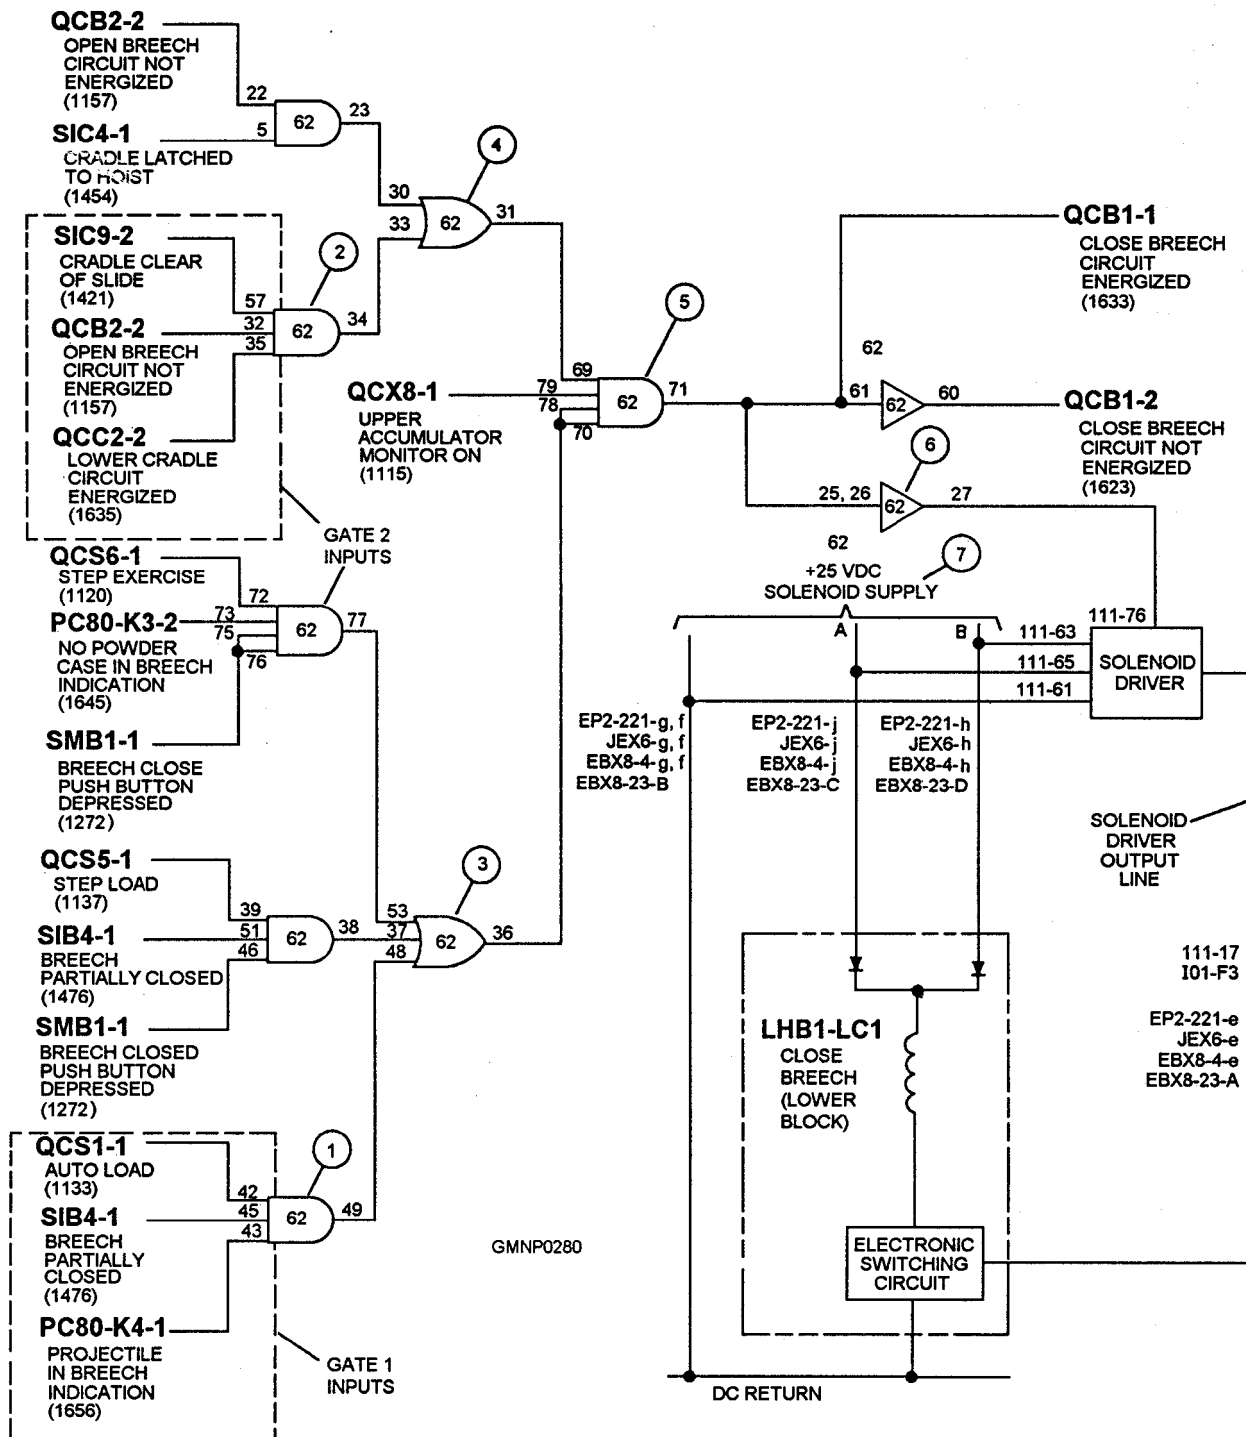
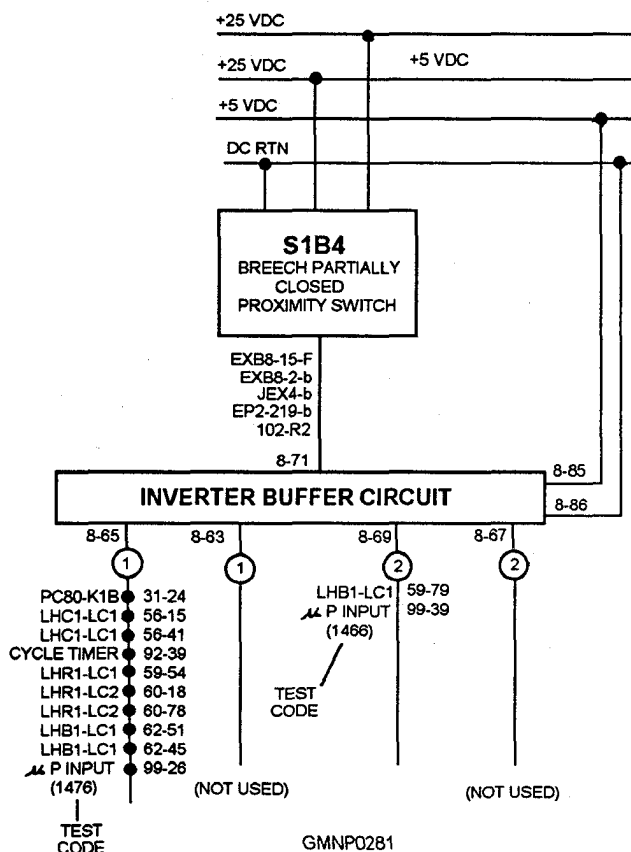
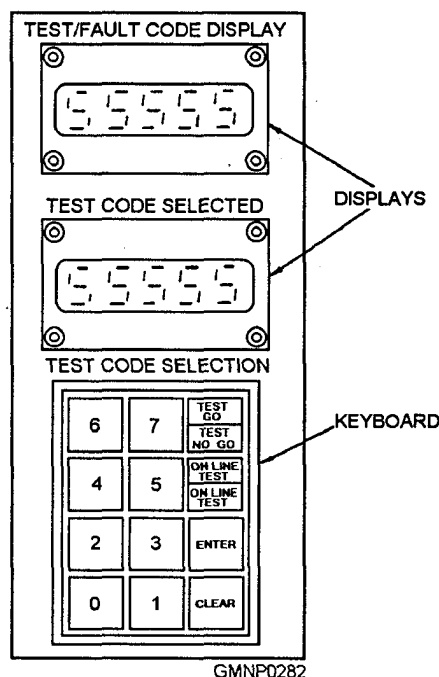

Figure 5-17.—Typical logic control circuit.
Figure 5-18.—Inverter buffer circuit for SIB4.
Figure 5-19.—Test/Fault code keyboard and displays.
Figure 5-17 shows a typical logic circuit that uses inverted and buffered switch outputs to trigger a solenoid driver. The solenoid driver, in turn, controls a
This circuit consists of AND gates, OR gates, and an inverter. The numbers within the gates identify the printed circuit board in the EP2 panel on which the circuit is located. The numbers on the input and output lines of the gates identify the terminal pin that connects to that point. The circled numbers in figure 5-17 are
Inputs to the logic gates are identified by both alphanumeric nomenclature and a brief description of what the input means. The input SIB4-1 (BREECH PARTIALLY CLOSED) to gate 1 comes from the number 1 output leg of the inverter buffer associated with SIB4 (fig. 5-18). When the breech is partially closed, the switch is activated and the high switch output through the inverter buffer produces a low logic input at input pin 45 of gate 1. Remember, gate 1 is an AND gate and requires all inputs to be LOW to produce a LOW output.
The inputs to gates 1 and 2 in figure 5-17 initiate the operation of breech closing solenoid LHB1-LC1 in the normal mode of operation, AUTO LOAD. The six inputs indicate that the gun-loading system has delivered a complete round into the breech of the gun, the LOWER CRADLE circuit is energized, and the cradle has moved clear of the slide. With these conditions met, gates 1 and 2 pass a LOW logic signal to gates 3 and 4, respectively. Since gates 3 and 4 are OR gates, they require only one LOW input to produce a LOW output. The two LOWS from gates 3 and 4 are applied, with another LOW from summary circuit
The Mk 45 Mod 1 gun system is equipped with a microprocessor that monitors the sequence of operation of the gun through equipment position switch inputs. Notice the last output destination on the 1 and 2 legs of the inverter buffer circuit shown in figure 5-18. μ P INPUT indicates that switch output is supplied to the microprocessor. On the EP-2 panel there is a Test/Fault Code Keyboard and Display (fig. 5-19) that is used to interface with the microprocessor. To test the output of a switch or summary circuit, the operator needs only to type in the test number for that circuit or switch. The result of the test is displayed as a 0 or a 1 in the Test/Fault Code Display above the keyboard. A zero (0) indicates a LOW output and a one (1) indicates a HIGH output. In this case, the test number for SIB4 is 1476 for leg 1 and 1466 for leg 2 (fig. 5-19). The test code number is
displayed in brackets along with the circuit or switch input/output identification (note the same number [1476] in the SIB4-1 input to gate 1 in fig. 5-17).
Logic circuit failures are isolated much the same as they are in the older types of control circuits. Refer to figure 5-17 as we walk through a typical troubleshooting routine. You have verified equipment position and determined that the equipment stopped at the CLOSE BREECH step in the loading sequence. The first problem is to isolate the fault to one side of the circuit. This is done by entering the test code for QCB1-1 [1633]. A LOW would indicate the problem is in the right side of the circuit, in gate 6—the solenoid driver or the solenoid. Let us assume we read a HIGH here, the problem is in the left side of the circuit. Since there are no test codes for gates 3,4, and 5, we skip over to the switch inputs for gates 1 and 2. If all the inputs to gates 1 and 2 are LOW, the problem is on board 62. A HIGH at any of these test points would lead you back through the inverter buffer circuit for that input. In this case we will assume a HIGH input is detected at SIB4-1. Refer to figure 5-18 as we examine the inverter buffer for SIB4. Since we have read a HIGH at leg 1, test code [1476], we can assume the inverter buffer is functioning if we read a LOW on leg 2, test code [1466]. These tests lead us back to the proximity switch. After verifying that the switch is in proximity, we test the switch by checking switch input at point 8-71. This test is accomplished using a circuit card extender. The circuit card extender allows you to take input and output readings on a particular circuit card while the system is energized. The circuit card extender provides an extended circuit card jack with test points for each pin connection. A LOW reading at pin 8-71 would indicate a bad proximity switch.